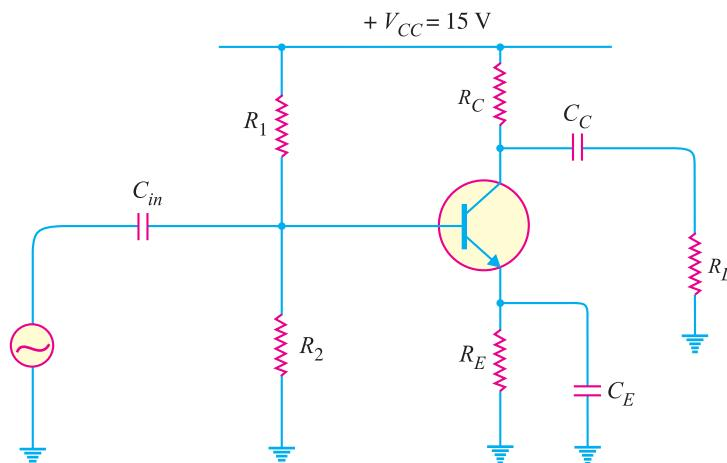

Fig. 10.15
**Example 10.5.** For the transistor amplifier shown in Fig. 10.15,  $R_1 = 10 \text{ k}\Omega$ ,  $R_2 = 5 \text{ k}\Omega$ ,  $R_C = 1 \text{ k}\Omega$ ,  $R_E = 2 \text{ k}\Omega$  and  $R_L = 1 \text{ k}\Omega$ .
**Example 10.6.** In the transistor amplifier shown in Fig. 10.15,  $R_C = 10 \text{ k}\Omega$ ,  $R_L = 30 \text{ k}\Omega$  and  $V_{CC} = 20 \text{ V}$ . The values  $R_1$  and  $R_2$  are such so as to fix the operating point at 10V, 1mA. Draw the d.c. and a.c. load lines. Assume  $R_E$  is negligible.